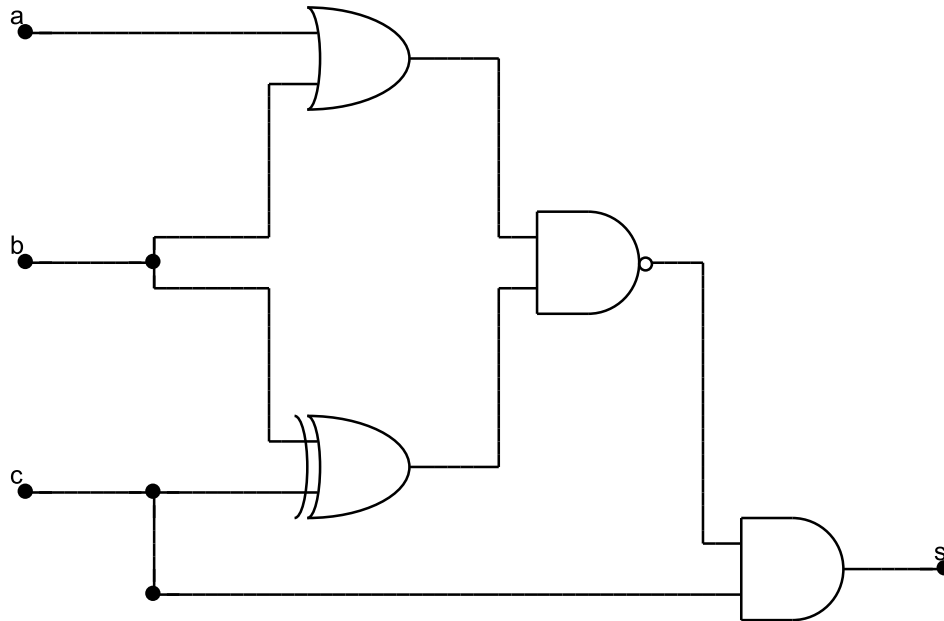

Figure 1.9: Circuit for supplementary exercises
- ⇒ Create a new project. Then build the circuit of the figure 1.9, which it has three inputs and one output.